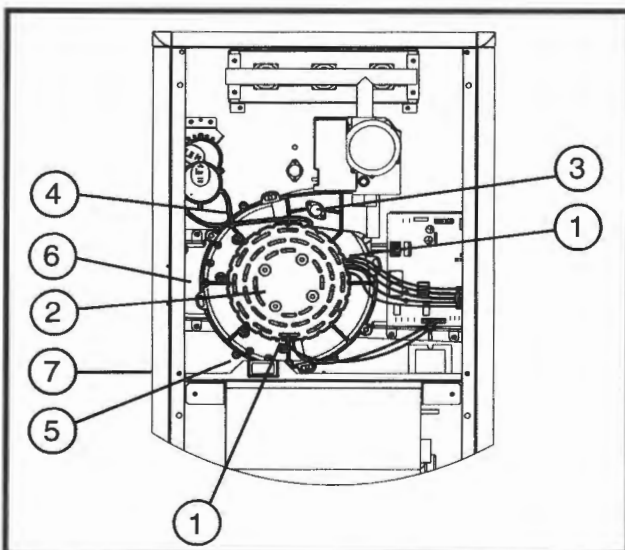

Figure 14. Inducer Assembly Rotation
1. Disconnect both electrical harnesses (1) from the inducer assembly (2) (Figure 14).
2. Disconnect two wires from the inducer assembly limit switch (3).